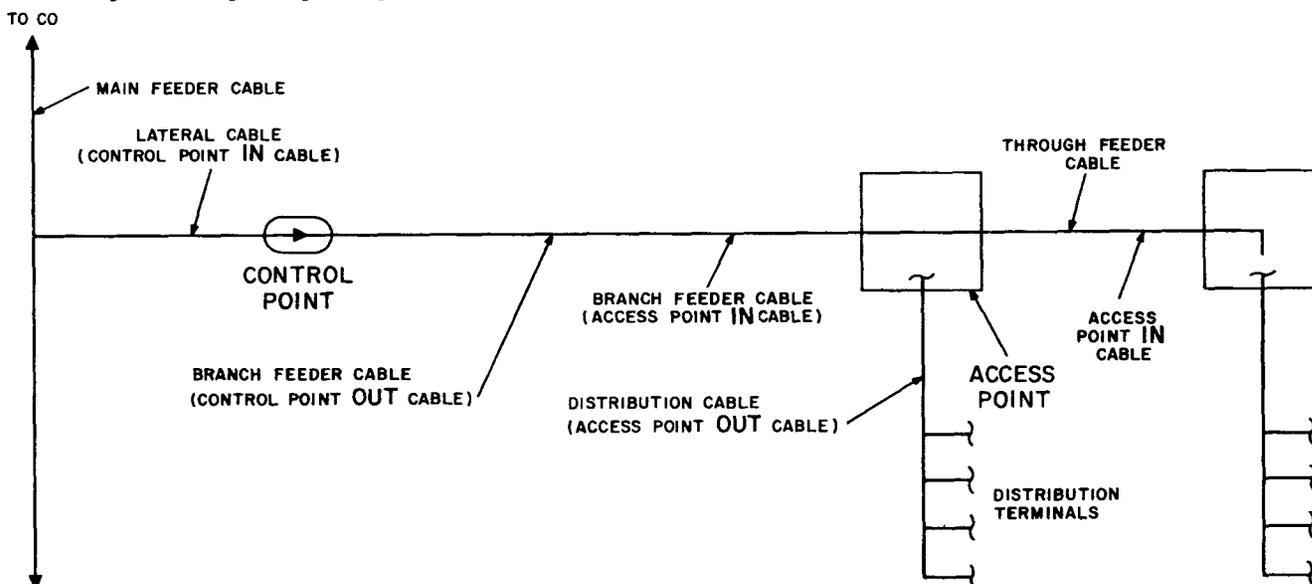

Fig. 1—Simplified Dedicated Plant Distribution System
2.01 **Access Points** provide a means of connecting pairs in distribution cables to spare pairs in main or branch feeder cables. Cables entering access points from the central office or a preceding control point are termed **IN** or **THROUGH** cables (Fig. 1). Cables leaving access points toward subscribers are termed **OUT** cables. Cables which originate in the access point assume the address of the access point, and the cable pair numbers assigned to the pairs in these cables begin at one (1) and continue up to the total number of pairs originating at this location. **THROUGH** feeder cables leaving access points do not change designations.